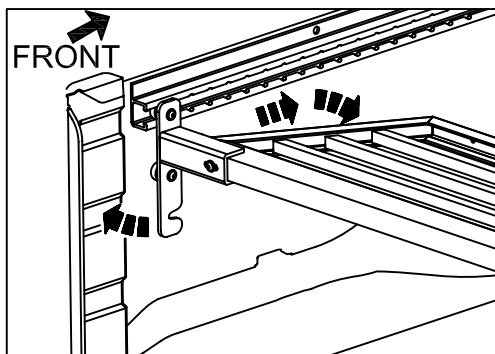

Fig. 3
7. With the tailgate down, slide the top wheels of the Mounting Brackets (#2 & #3) into the utili-tracks on the side of the truck bed. To do this, hold the assembly horizontal as shown in Fig. 3. Place the top wheel into the utili-track. Start to slide the assembly forward and rotate the assembly down to align the other wheels into the utili-track.